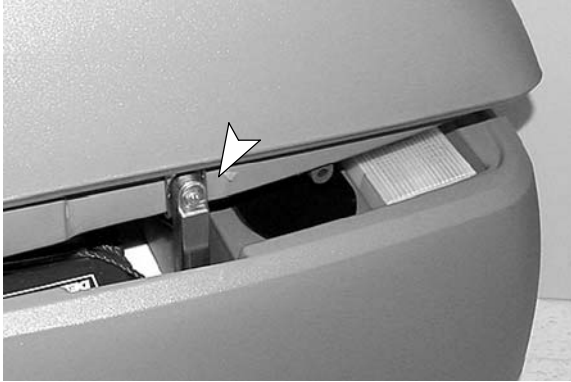

FIG. 34
4. Rest the recovery tank on the support stand to promote ventilation during charging (Figure 34).